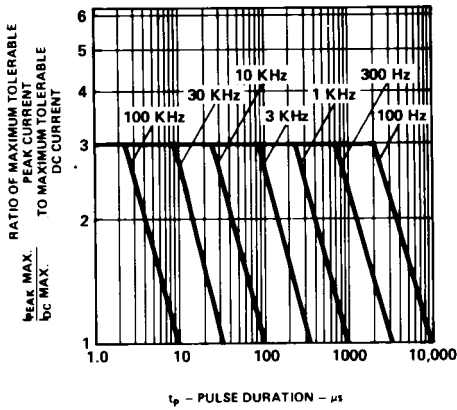

Figure 2. Maximum Tolerable Peak Current vs. Pulse Duration. ( $I_{DC \text{ MAX}}$  as per MAX Ratings).
- See Figure 2 to establish pulsed operating conditions.